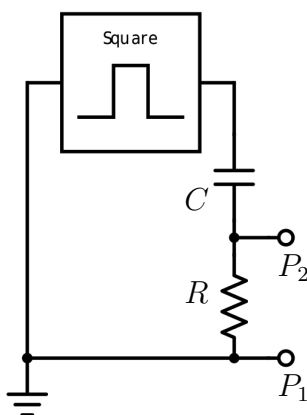

Figure 3: Circuit diagram with resistors in series and parallel.
- 2) Calculate the  $RC$  time constant for the circuit in Fig. 3.
Build the circuit shown in Fig. 3, using the same values as in the previous section. With the scope ground shield *always* plugged into ground at  $P_1$  verify that the output of the function generator is indeed a square wave.